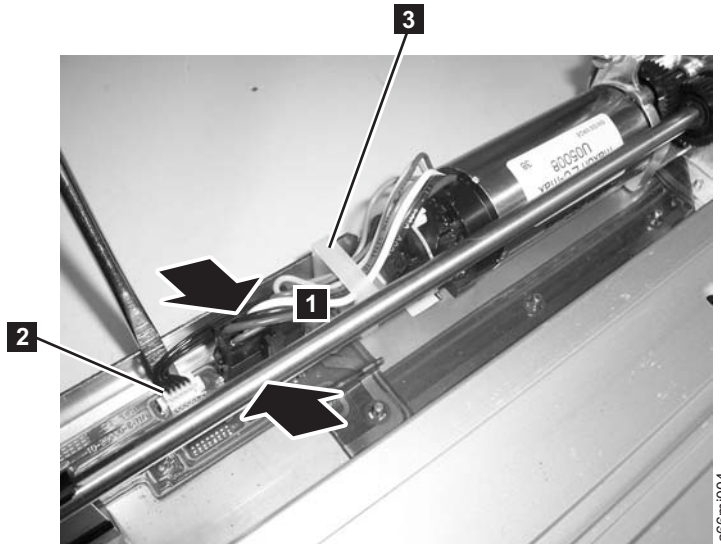

Figure 8-58. Y motor connector
4. See Figure 8-58 on page 8-62. Remove the large black connector.
- a. Pinch the latch (**1** in Figure 8-58) on the cable connector.
5. Use a small flat blade screw driver to pry up on the small white connector (**2** in Figure 8-58) gently working the screw driver blade along the entire outside edge of the connector.